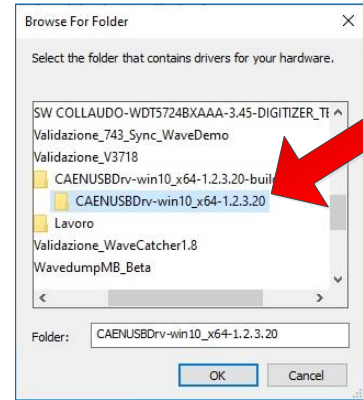

Fig. 11.4: USB Driver Installation: step 4
4. Press the [Browse] button and point to the destination path on the host PC where you unpacked the downloaded driver (**Fig. 11.4**).